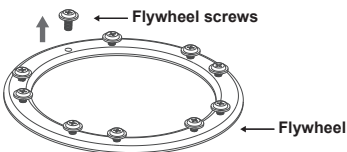

Figure 13
Step 2. Remove the ten flywheel screws from the flywheel. (Fig. 13)